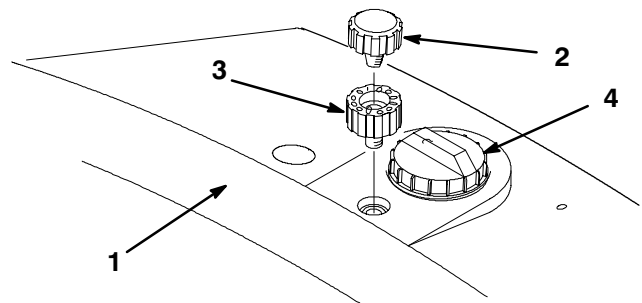

Figure 7
1. Remove the breather cap from the hydraulic reservoir (Fig. 7).
2. Thread the breather extension into the reservoir (Fig. 7).
3. Thread the breather cap into the breather extension (Fig. 7).